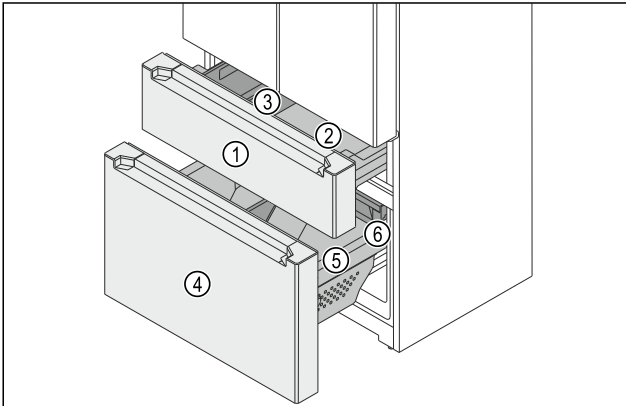

Fig. 160 Freezer section pull-out carts
- (1) Top pull-out cart
- (2) Container
- (3) FlexBox
- (4) Bottom pull-out cart
- (5) Container
- (6) Drawer
The freezer section consists of two pull-out carts. The top pull-out cart Fig. 160 (1) has one container Fig. 160 (2) and one FlexBox Fig. 160 (3). The bottom pull-out cart Fig. 160 (4) has a larger container Fig. 160 (5) and a drawer Fig. 160 (6). You can remove the FlexBox and the container in the top pull-out cart for cleaning.